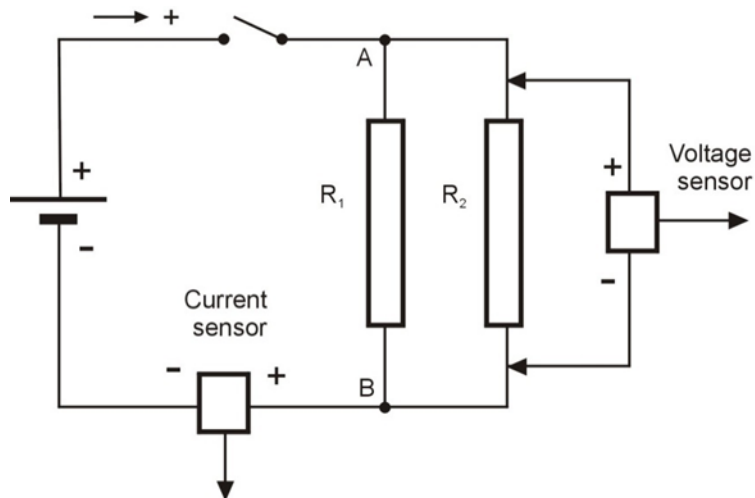

Figure 3
6. Assemble the circuit as shown in Figure 1 and Figure 3: